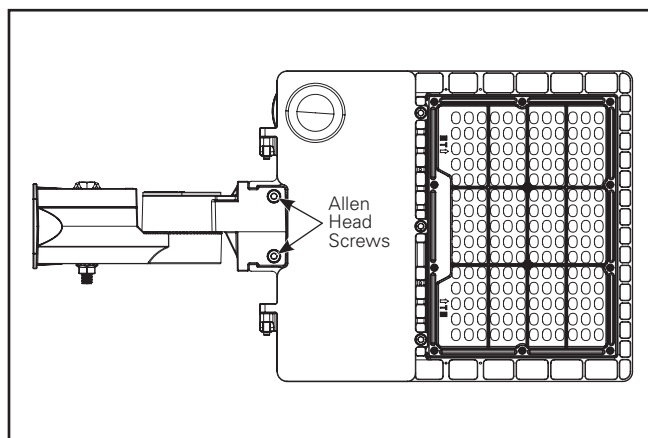

Figure 3.
2. Route wire leads from luminaire into the slipfitter and install slipfitter onto luminaire. Secure with two Allen screws. Tighten to 30 in-lbs. (Figure 3.)